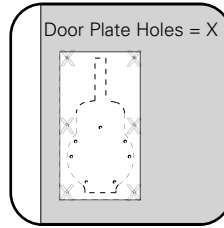

Figure 3
- 1.3 Use the Pürleve Door Plate as a template for the screw holes. Mark the center of all six Pürleve Door Plate holes and the other 7 Pürleve Dispenser installation holes using a center punch, nail or screw tip. (Fig. 3)